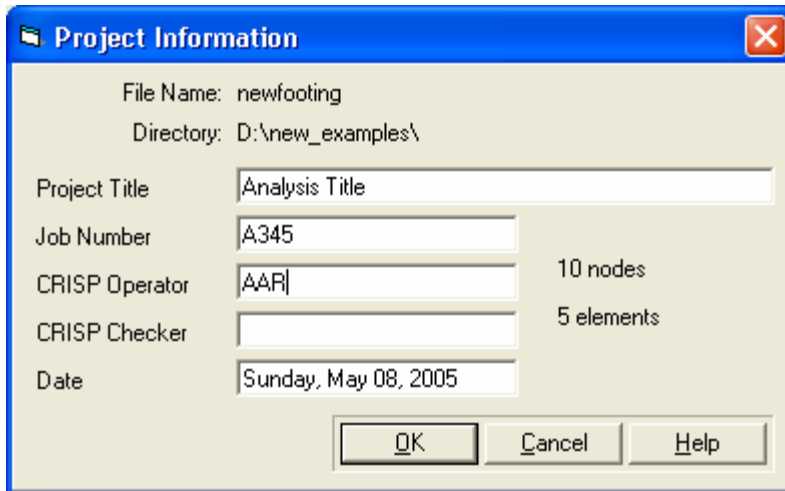

Figure 4 Project Information dialog box
- Step 3** The Project Information dialog box should now look similar to Figure 4. Click on **OK** to return to the Project Setup dialog box once you have finished.